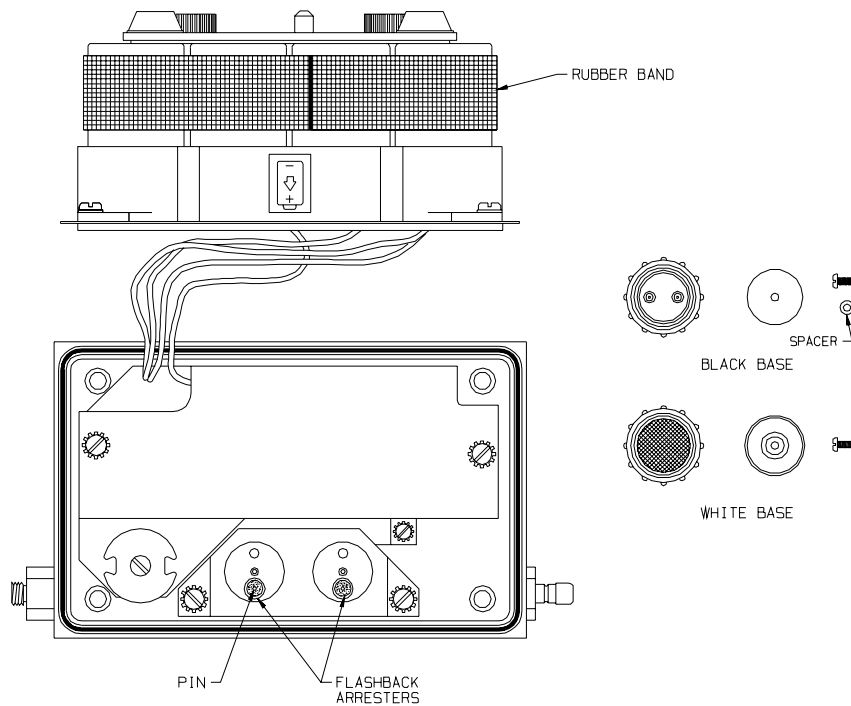

Figure 3-4. Flashback Arrester Locations
10. Remove the flashback arresters (FIGURE 3-4) by grasping the pin with long-nose pliers and pulling the arrester out of the sleeve.
15. Align the spacer (FIGURE 3-4) over the center hole and place the deflector in the well.
4. Remove the battery retainer (FIGURE 3-4).